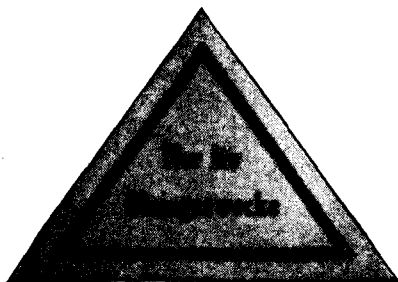

Figure 90.—“Only for practice purposes.”
(2) *Examples*.—Set forth below (figs. 90 to 101, incl.) are some typical labels for small-arms ammunition.